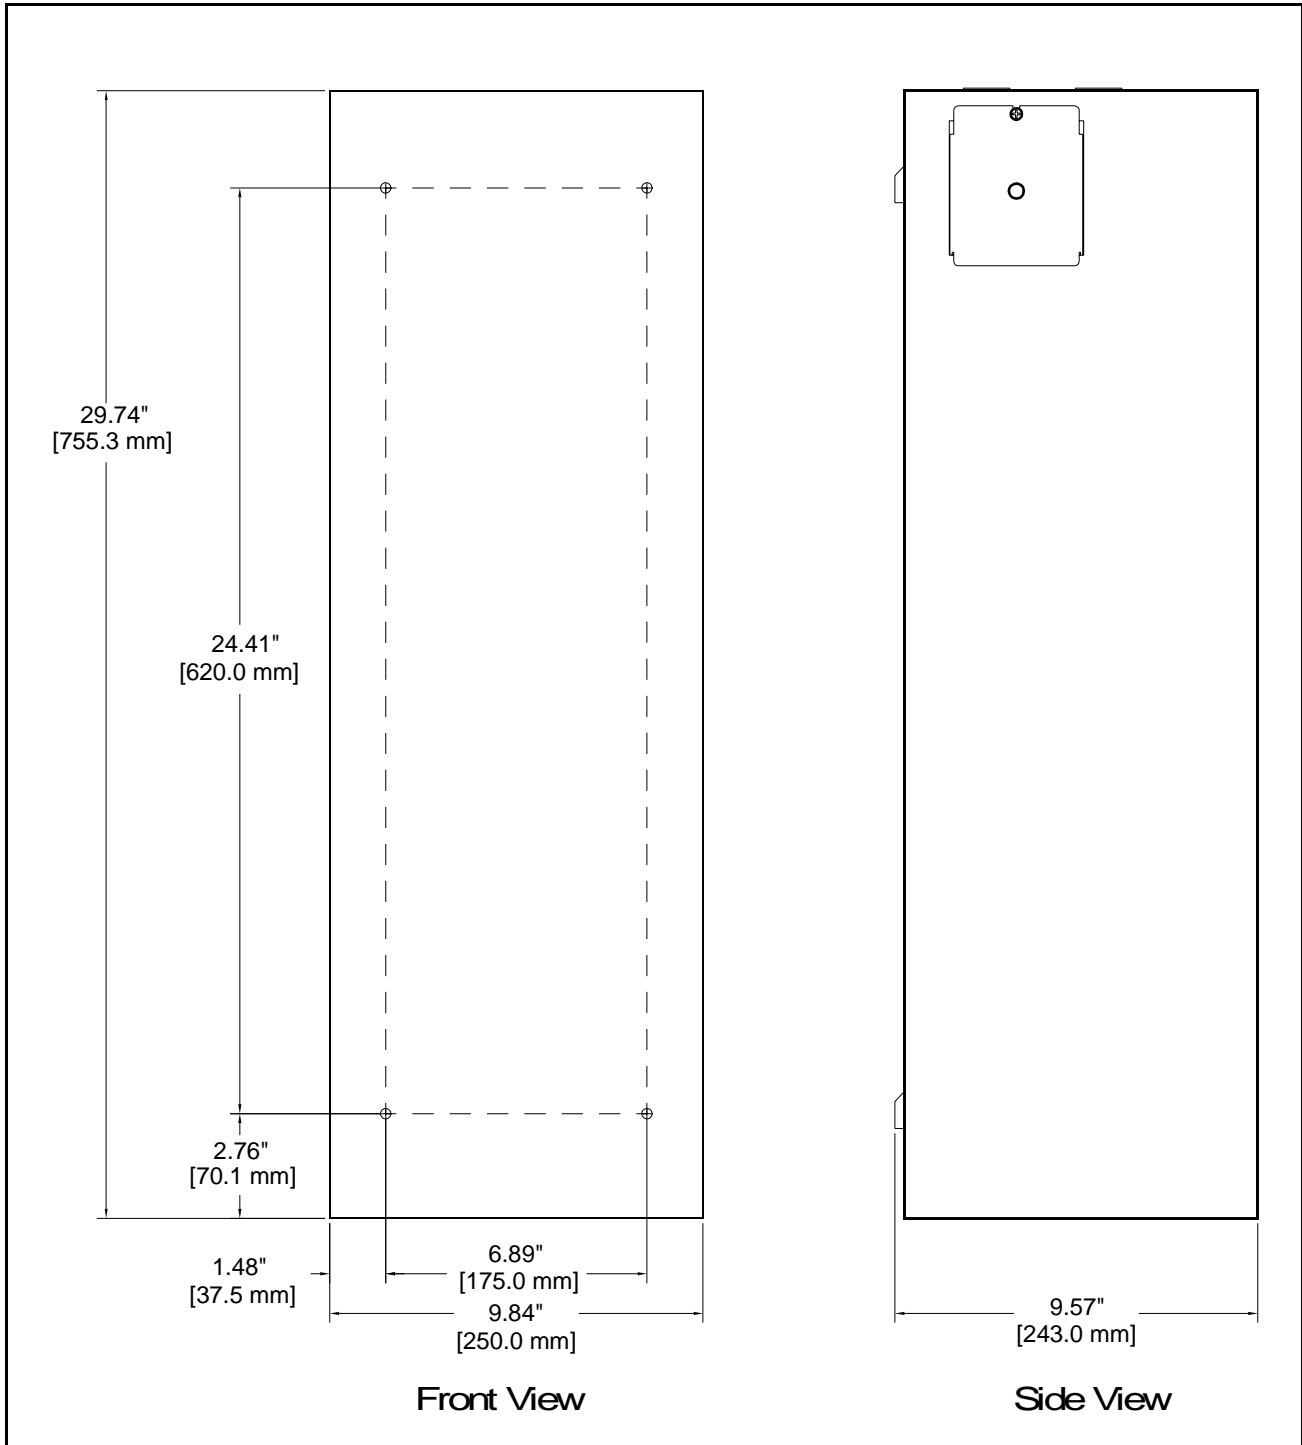

Figure 1 – DB Kit Enclosure and Mounting Dimensions
Step 2. **If the drive has the NEMA 1 cover kit (M/N 904FK0101) installed**, locate and drill the mounting holes for the DB enclosure to the right of the drive using the mounting hole pattern located on the back panel. See figure 1.
If the drive is mounted in some other NEMA 1 enclosure, the DB kit can be mounted above or next to the drive. Locate and drill the mounting holes for the DB enclosure using the mounting hole pattern located on the back panel. See figure 1.